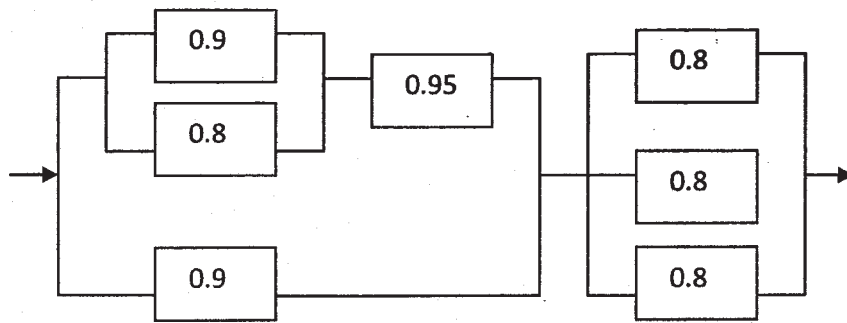

Fig.3
- b) Find the reliability of the configurations shown below in Fig.3, [8]